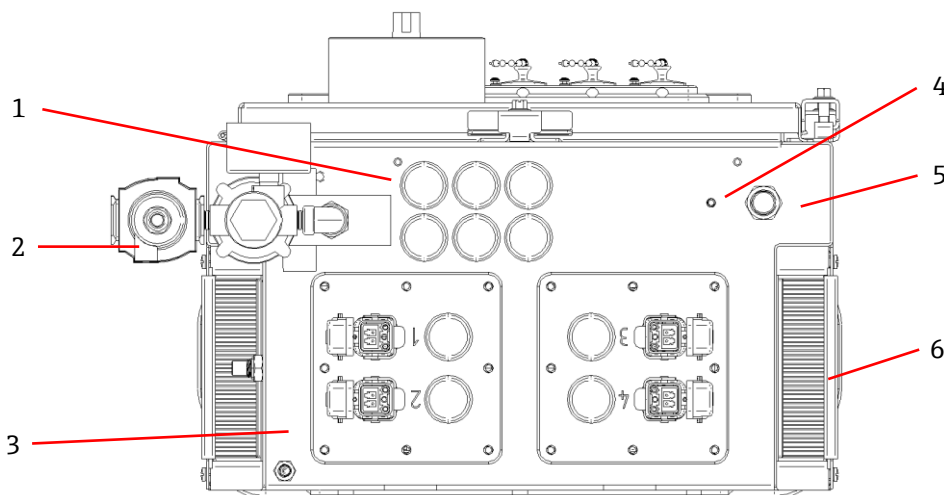
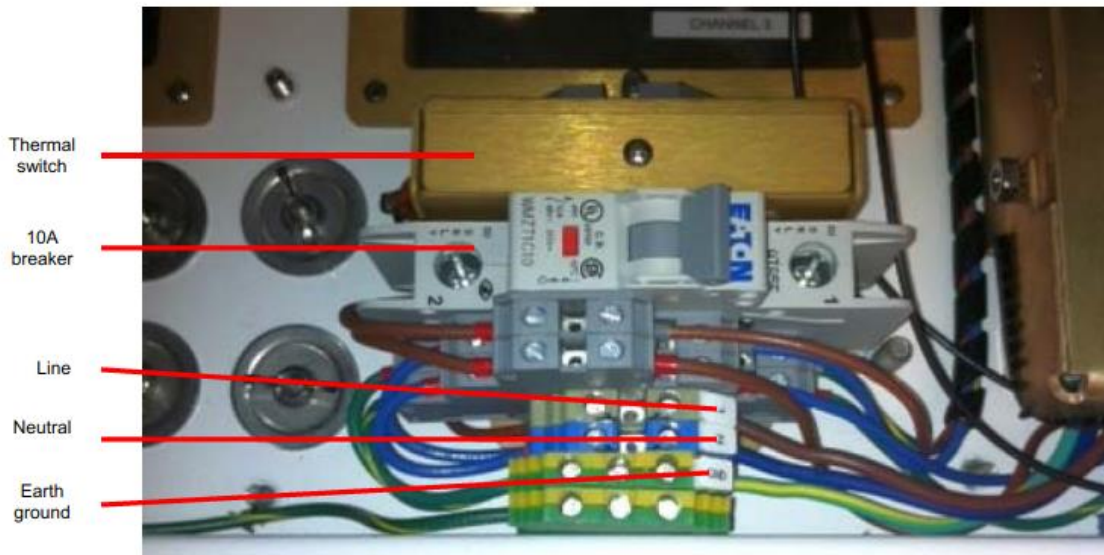

Figure 20. Glands and connectors on the bottom of the Raman Rxn5
Figure 24. AC mains DIN rail distribution
Figure 20 shows the temperature and pressure glands for all four channels is shown below, the fiber optic connectors for all four channels, as well as the Alternating Current (AC) power input, the ground stud, the purge valve, and gauge.
The Raman Rxn5 can accept single phase AC voltages between 90-264 VAC and 47-63 Hertz (Hz). The enclosure must be grounded according to local codes using the ground stud on the external enclosure adjacent to the power entry cable gland (Figure 20).
The Raman Rxn5 is supplied with a 10A C-Curve circuit breaker, Automation Direct, WMZT1C10. Power wires shall be installed to the right hand side of the terminal blocks (Figure 24). The enclosure **MUST** be grounded using the ground stud provided adjacent to the power entry gland (Figure 20). An optional grounding cable may be connected to any **Green** terminal block on the DIN rail. As long as the enclosure is properly grounded at the external ground stud, the ground terminal blocks will pick up good ground through the enclosure.